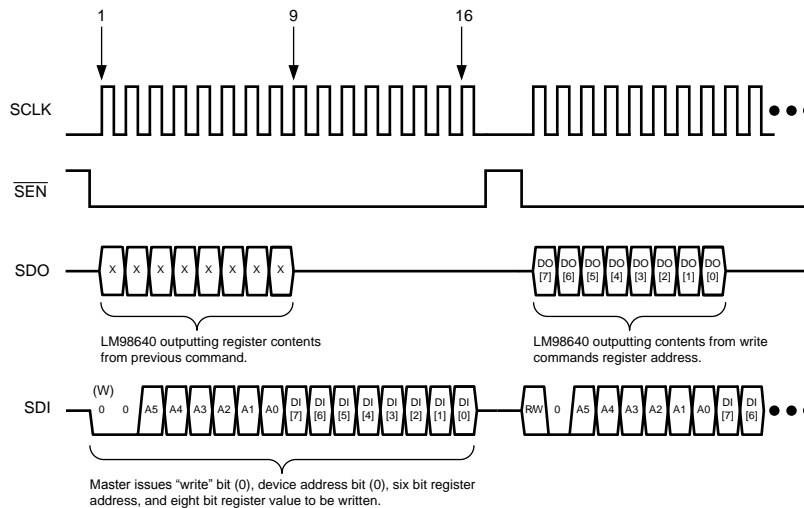

Figure 28. Four Wire Serial Write
To write to the serial registers using the four wire interface, the timing diagram shown in Figure 28 must be met. First, $\overline{\text{SEN}}$ is toggled low. At the rising edge of the first clock, the master should assume control of the SDI pin and begin issuing the write command. The write command is built of a "write" bit (0), device address bit (0), six bit register address, and eight bit register value to be written. SDI is clocked into the LM98640QML at the rising edge of SCLK. The LM98640QML assumes control of the SDO pin during the first eight clocks of the cycle. During this period, data is clocked out of the device at the rising edge of SCLK. The eight bit value clocked out is the contents of the previously addressed register, regardless if the previous command was a read or a write. When $\overline{\text{SEN}}$ toggles high, the register is written to, and the LM98640QML now functions with this new data.